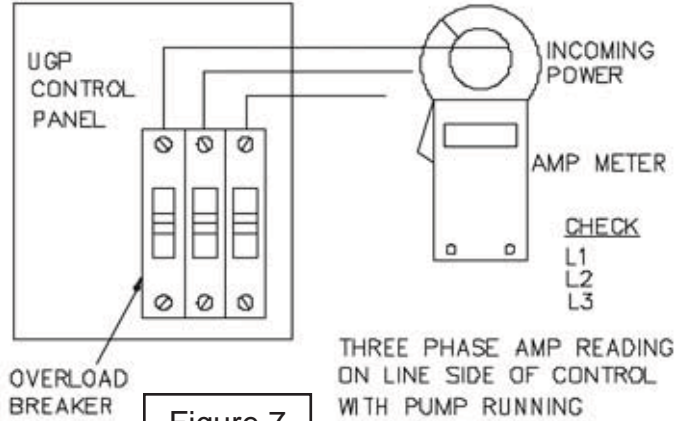

Figure 7
**Three Phase:** Using a clamp on amp meter, clamp the amp meter to the L1 wire between the service drop and control panel circuit breaker, (see Figure 7).